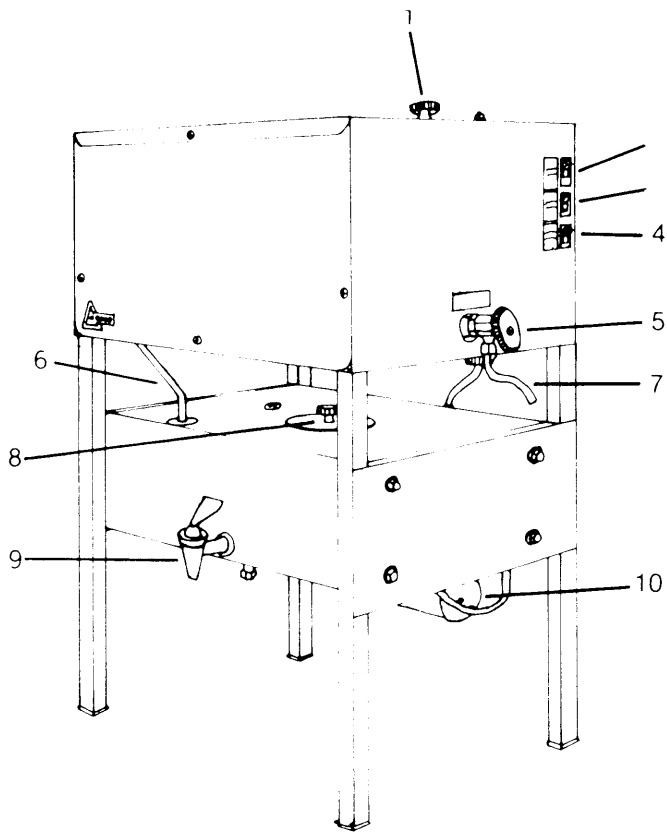

Figure 2
- 5) Unpack the top portion of the Aqua-D Still. You will find the following parts in the parts bag (Fig 2):